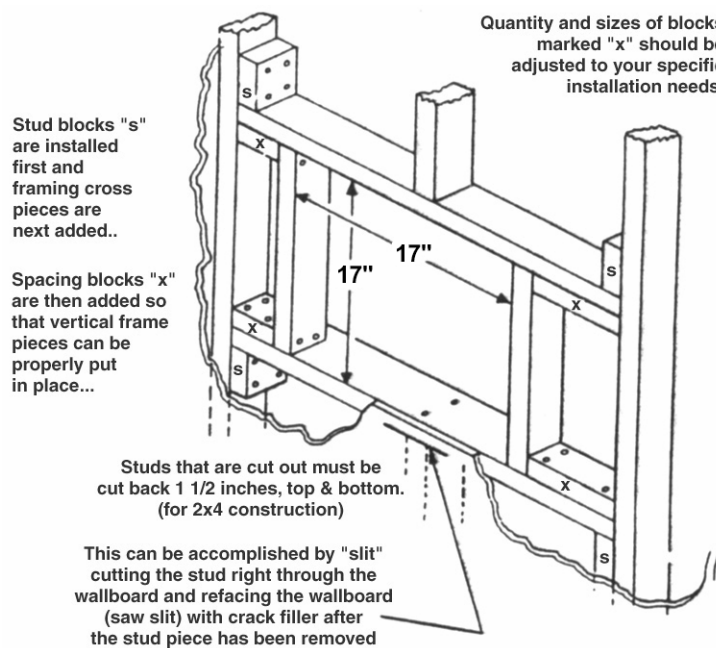

Figure 2: Framing and Header Suggestions
2. Saw along the marked lines to remove the 17" square piece of wall material. CAUTION: Make sure there are no electrical wires within the wall. The 17" square opening created must be kept completely free of combustibles. This means that if a wall stud or any other combustible material is encountered within the opening, it must be removed. If a wall stud is thus removed, it is recommended that in addition to cutting a section of wall stud out, appropriate framing or headers (as required) be installed. (See Figure 2)